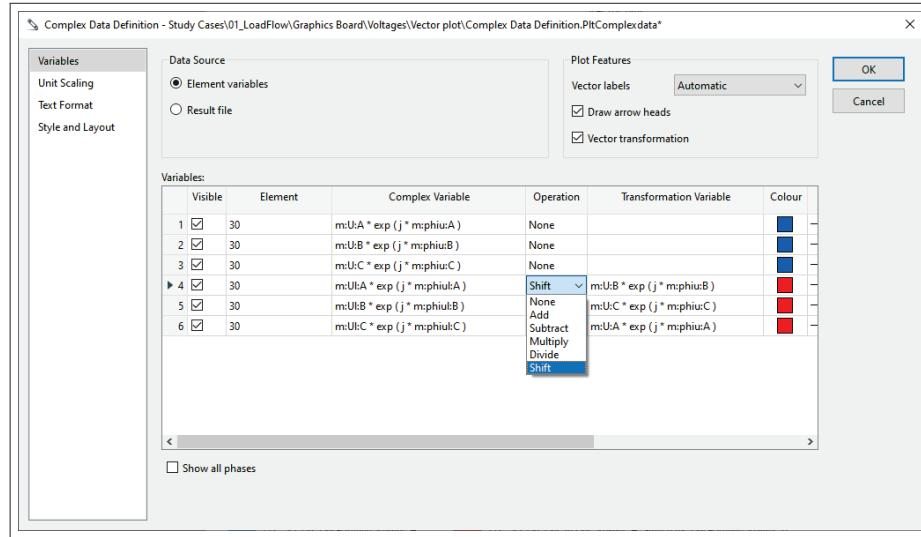

Figure 19.7.4: Different operations for vector transformation
- **Vector transformation:** using this feature, it is possible to transform a complex variable using another variable or a constant. As required, various operations such as addition, subtraction, multiplication and division in addition to shift can be applied to the complex variable. The information about these operations has to be provided in the *Variables* table. Also, the information about the operation being applied to the complex vector is visible in the plot legend. Figure 19.7.4 shows an example of the implementation of vector transformation feature in the edit dialog of the plot.